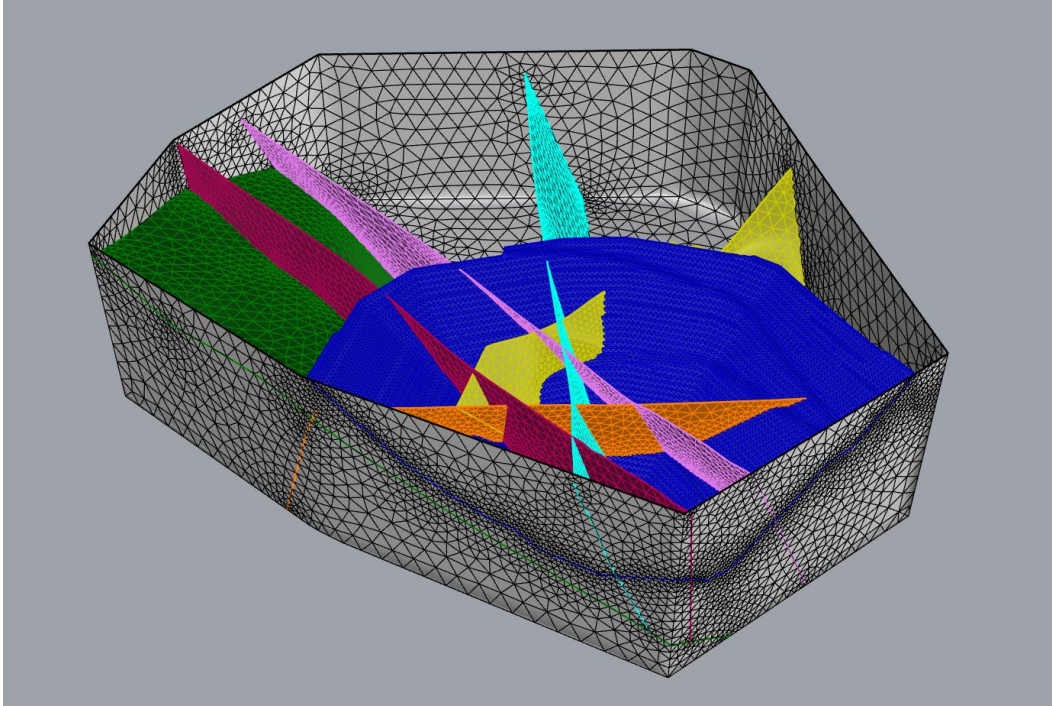

Figure 88: Final triangular surface meshes (the pit dump and topo meshes are not shown).
34. Remesh all meshes using **GSurf** (): *Mode* = *Tri*, *MinEdgeLength* = 20, *MaxEdgeLength* = 75, *RidgeAngle* = 15 and *AdvancedParameters*: *MaxGradation* = 0.2, *Optimization* = 8, *ShapeQuality* = 0.7, and *OutputMesh* = *Distinct*. The results are shown in Figure 88.